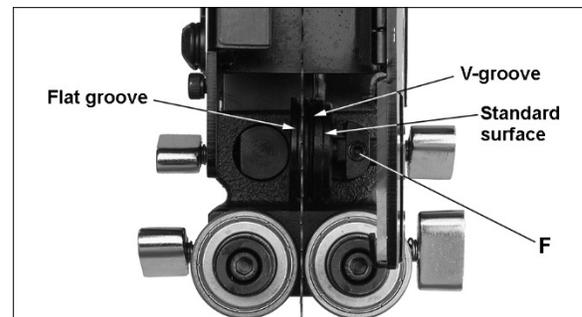

Figure 30: thrust bearing adjustment
The thrust bearing prevents backward deflection of the blade during cutting. The thrust bearing has three options for stabilizing the back of blade (see Figure 30).
1. Loosen set screw (F, Figure 30) and slide thrust bearing laterally to desired position.
2. Retighten set screw (F).
3. Loosen knob (C) and rotate knurled knob (B) to move thrust bearing toward back of blade.
5. Tighten knob (C).